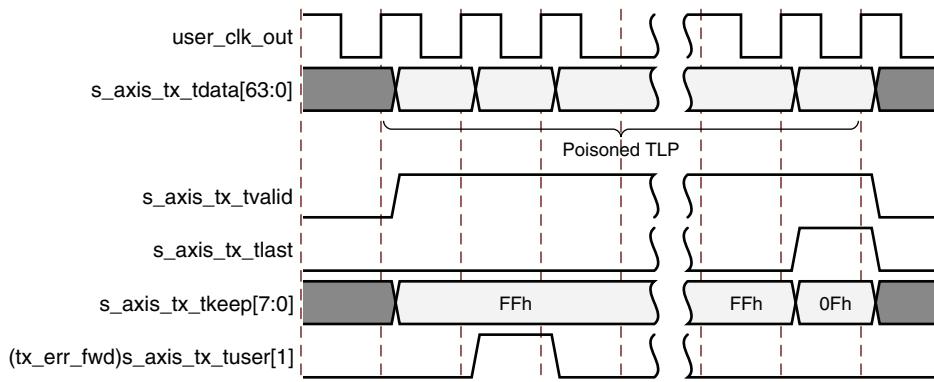

Figure 3-12: Packet Data Poisoning on the Transmit Interface
- Assert `s_axis_tx_tuser[1]` (`tx_err_fwd`) for at least one valid data transfer cycle any time during the packet transmission, as shown in Figure 3-12. This causes the core to set EP = 1 in the TLP header when it transmits the packet onto the PCI Express fabric. This mechanism can be used if the user application does not know whether a packet could be poisoned at the start of packet transmission. Use of `terr_fwd` is not supported for packets when `s_axis_tx_tuser[2]` (`tx_str`) is asserted (streamed transmit packets). In streaming mode, you can optionally discontinue the packet if it becomes corrupted. See Discontinuing Transmission of Transaction by Source, page 52 for details on discontinuing packets.